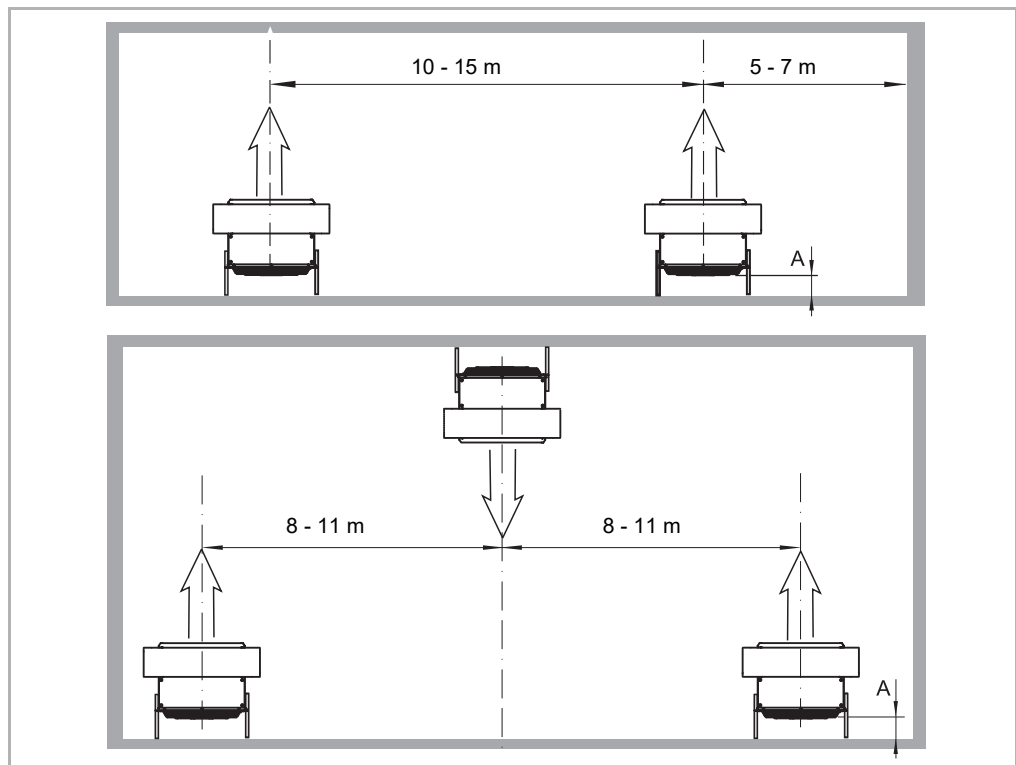

Fig. 4-3: Distance between units with wall mounting
- It is necessary to consider the minimum height, the direction of discharged air flow, distance between units and minimum distance from the wall (refer to Fig. 4-3).
Recommended distances between wall-mounted units (see Fig. 4-3)
Minimum distance from wall A (see Fig. 4-3)